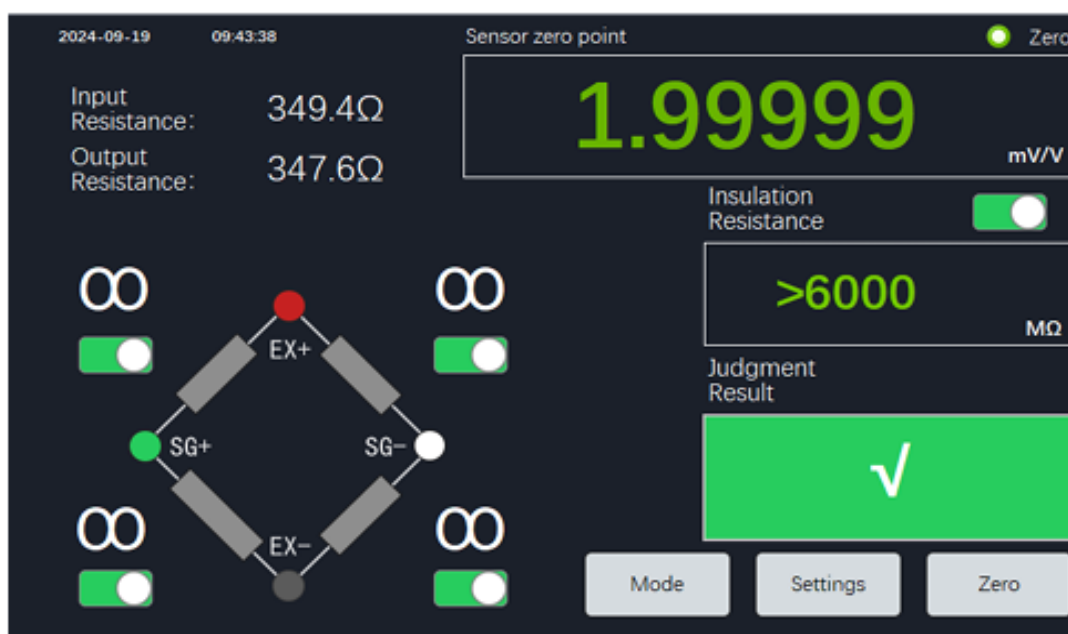

Figure 1: Main Interface of AN404
- Press the **Settings** button on the *Main Interface* (Figure 1) to access the settings interface, which includes multiple configuration options.